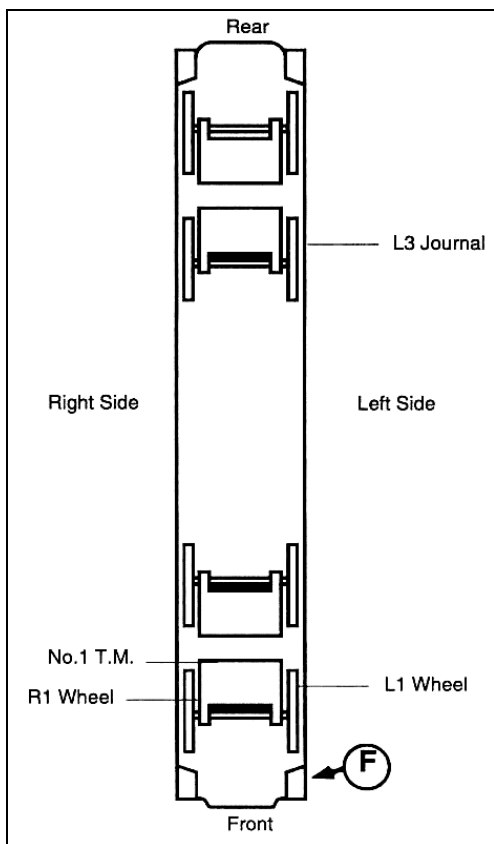

Figure 8-2. Front of Locomotive and Wheel Numbering
**Rule 8-3. FRONT OF LOCOMOTIVE AND WHEEL NUMBERING.** The front of the locomotive is designated by the letter “F” on each side of the locomotive. Wheels, journals, and traction motors are numbered consecutively starting with “1” at the front of the locomotive as shown in Figure 8-2.